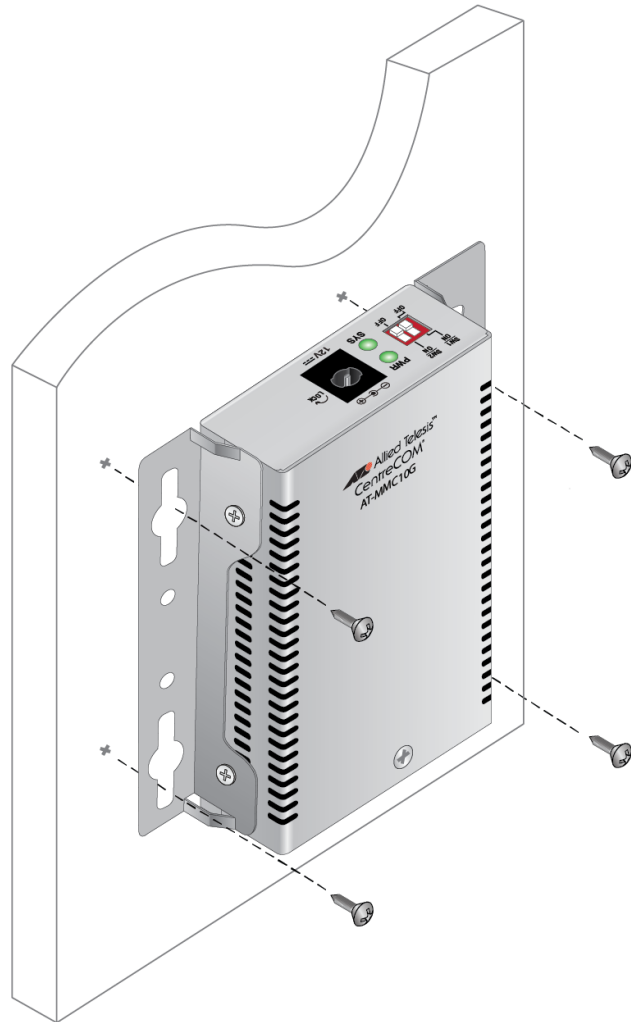

Figure 34. Securing the Media Converter to the Wall
10. Secure the media converter unit to the wall using four wall-mounting screws. See Figure 34 on page 57.